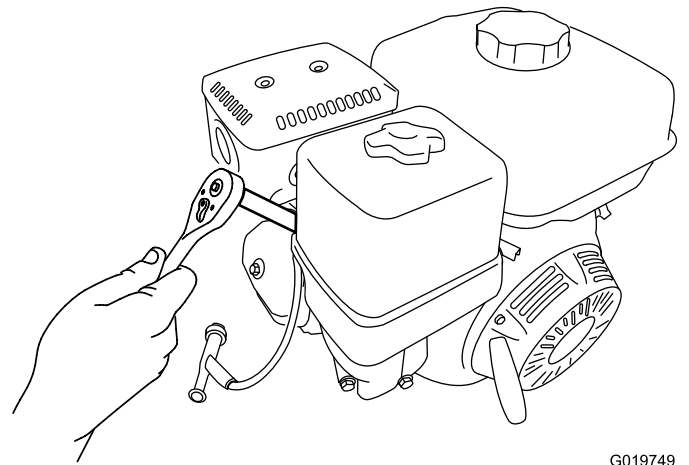

Figure 47
5. Rotate the spark plug counterclockwise using a 21 mm (13/16 inch) spark-plug wrench to remove the plug and the sealing washer (Figure 47).
2. Rotate the spark plug clockwise using a 21 mm (13/16 inch) spark-plug wrench until the plug and sealing washer are seated (Figure 47).